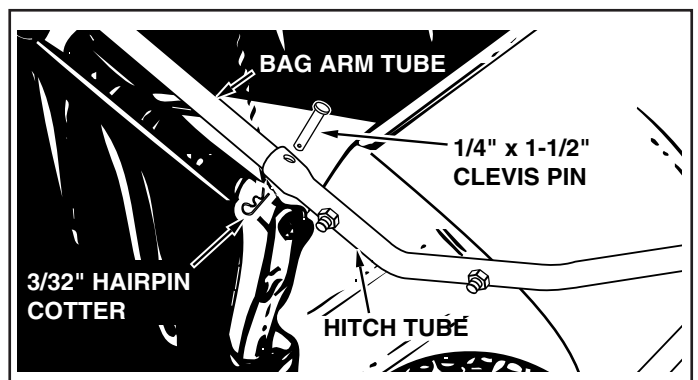

FIGURE 22
18. To assemble the hopper bag to the sweeper, slide the ends of the bag arm tubes into the ends of the hitch tubes and secure with two 1/4" x 1-1/2" clevis pins and 3/32" hairpin cotters. See figure 22.